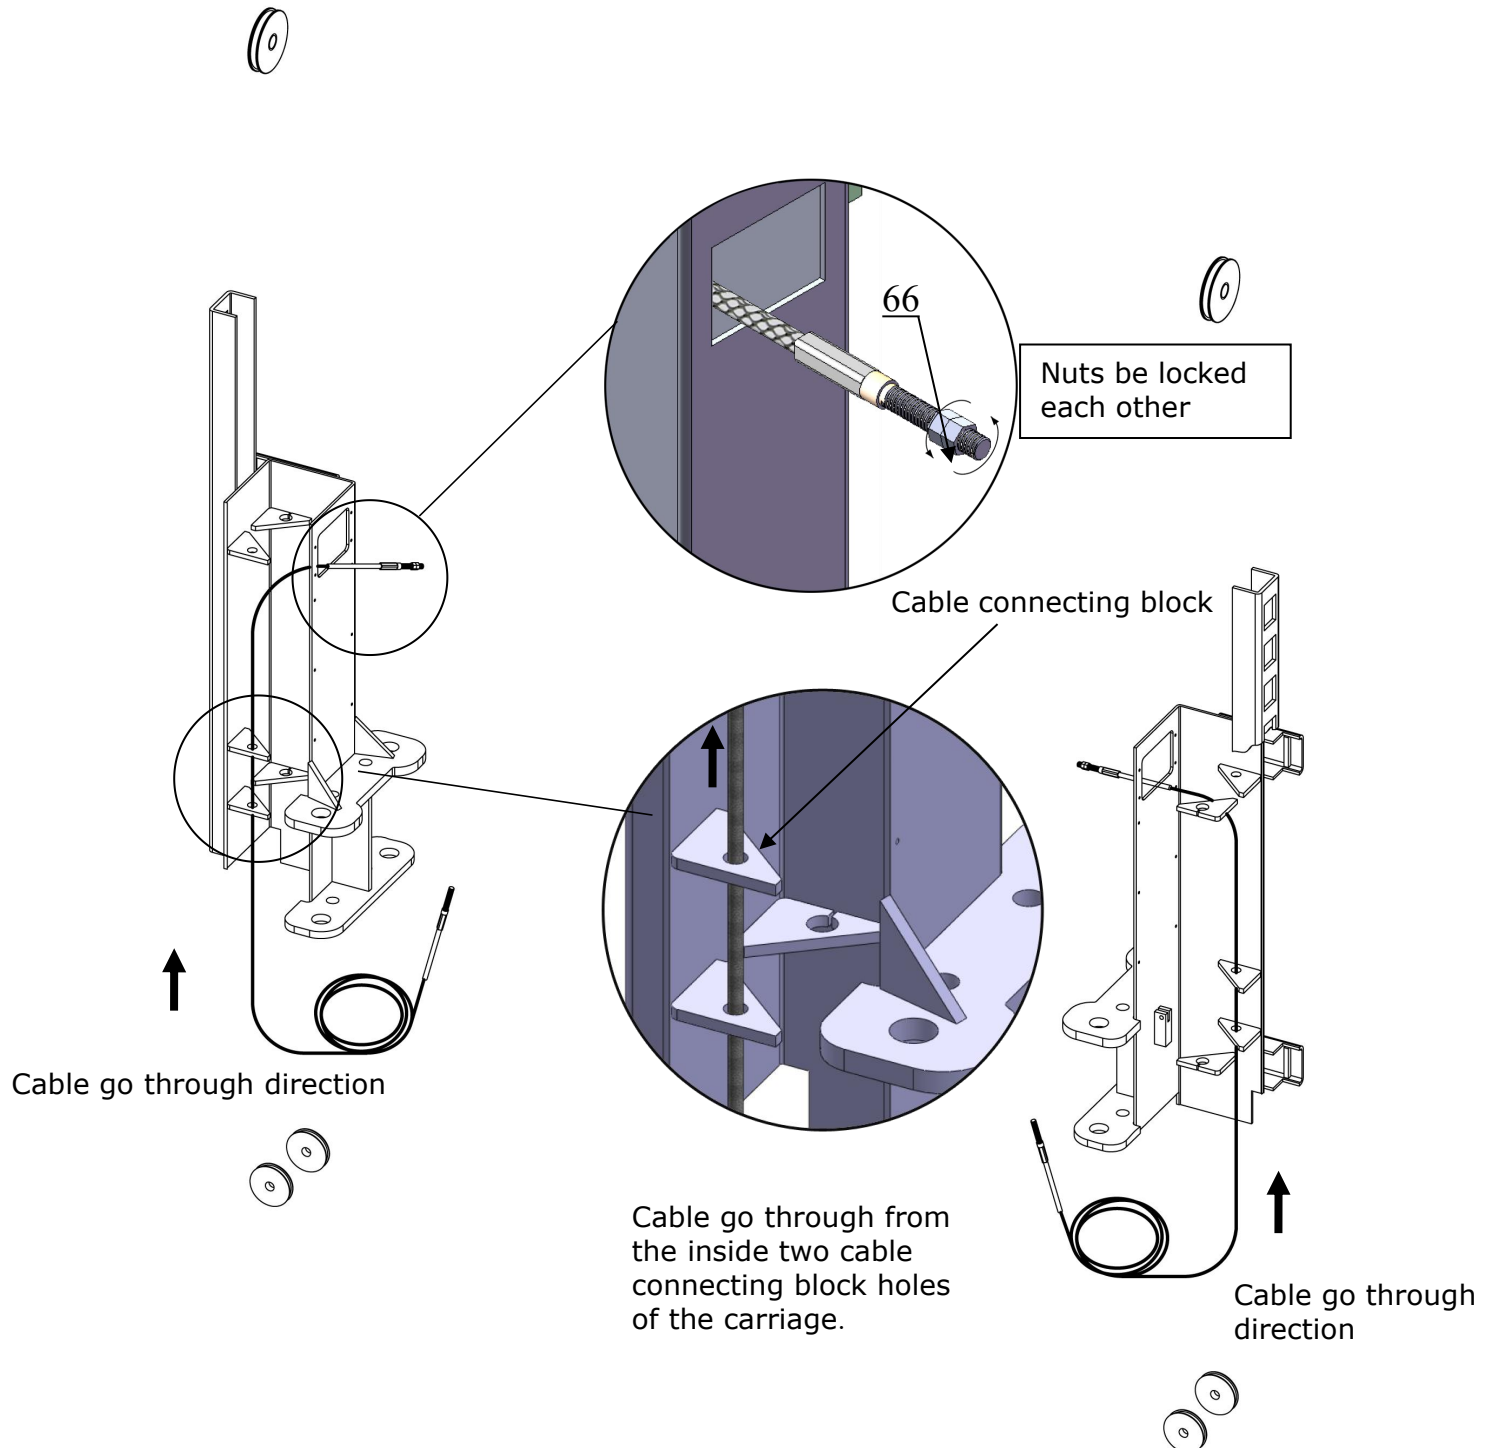
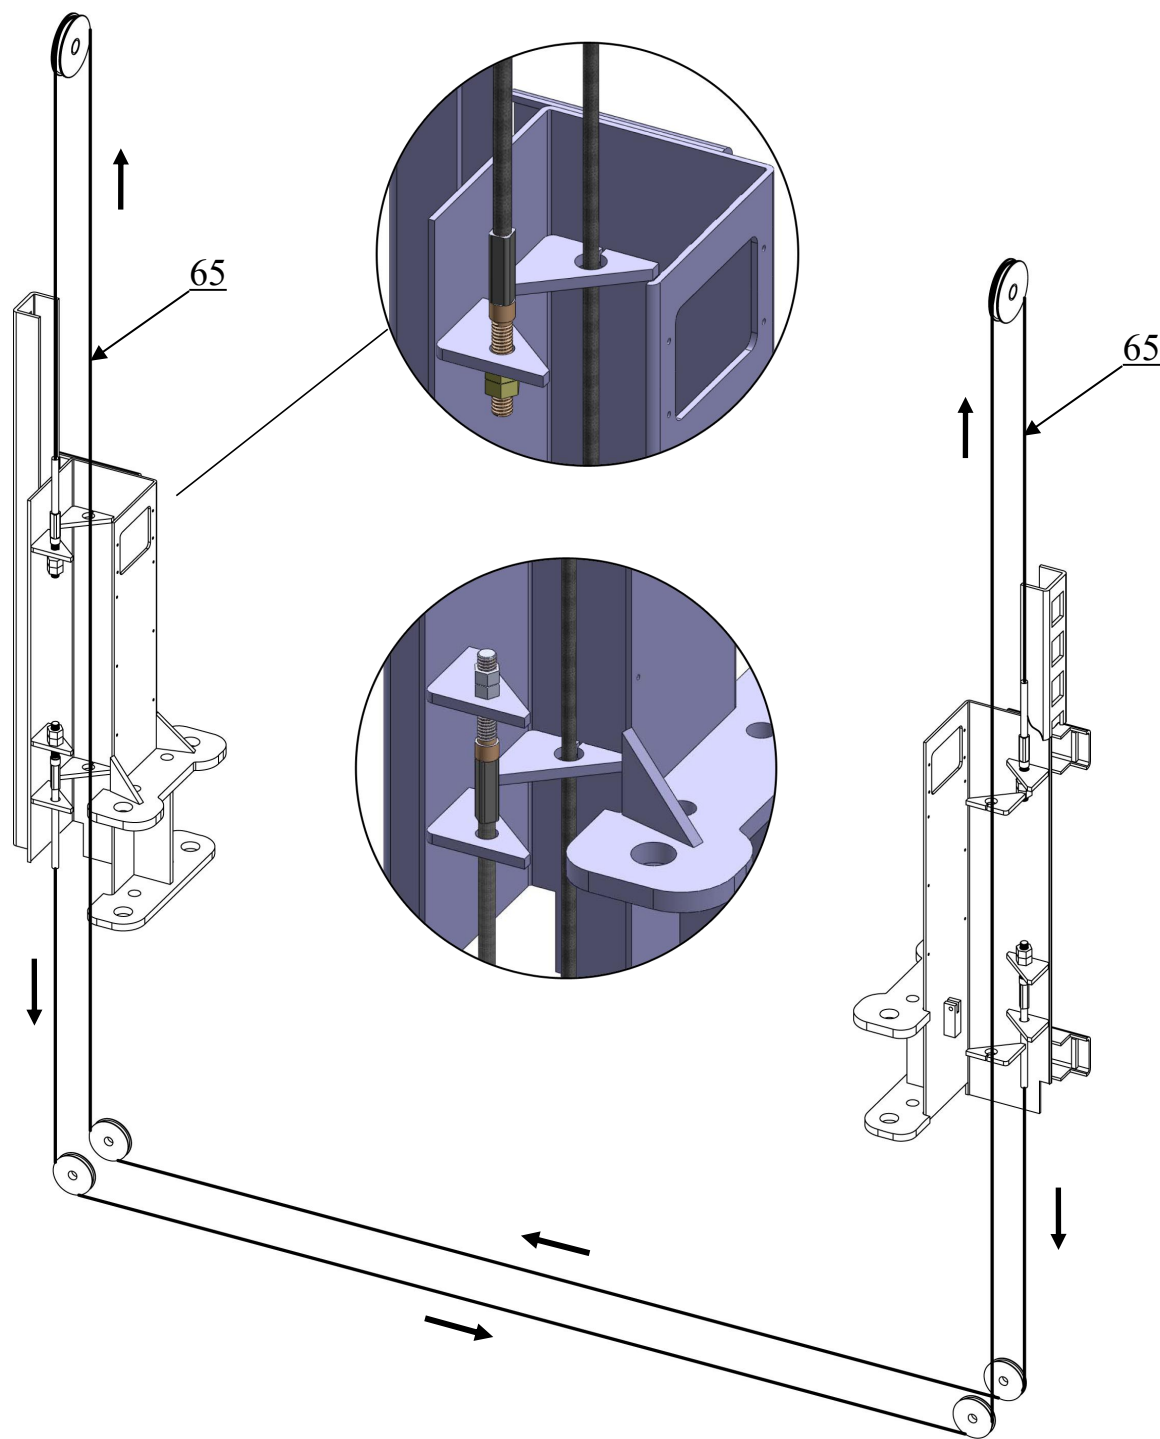

Fig. 21
Fig. 22
2. Select the width of the foundation according to step E (**Fig.14**) and select the width of the foundation size 145-3/8" vzt to install the cable.(**Fig.21&Fig22**)
2.1. Cable go through from bottom to the top, tighten the two cable nuts when it pass through the opening of the carriage. (Fig.21)